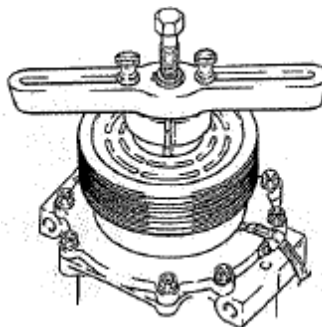

Figure 12-05
- (1) If bearing dust cover has not been removed, remove it now.
- (2) If internal snap ring for bearing is visible above the bearing, remove it with internal snap ring pliers.
- (3) Remove rotor snap ring.
- (4) Remove shaft key.
- (5) Remove rotor assembly: insert the lip of the jaws into the snap ring groove, place rotor puller shaft protector (puller set) over the exposed shaft, align thumb screws to puller jaws and finger tighten and turn puller center bolt clockwise using a socket wrench until rotor pulley is free. (Ref. Figure 12-05)